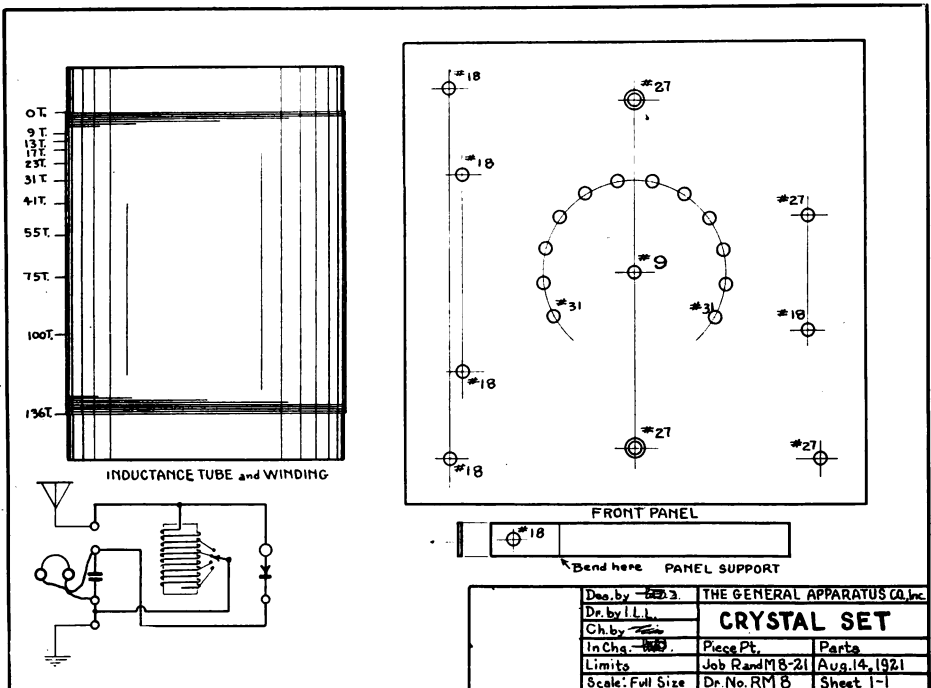

Fig. 2. Exactly one-half size. Showing the parts and the wiring of the completed outfit.
**Putting the Parts Together.** FIG. 2 shows the holes in the 5- by 5- by 3/16-in. L.P.F. panel. This material can be drilled readily with an ordinary hand drill after the holes have been located with a center punch. A drawing is also given for the panel support brackets, cut from 3/8- by 1/16-in. brass strip.
indicated in Fig. 2. At this point bend the wire toward the start of the coil and put one turn around the part already wound. Bring the end of this turn around to the place where it was started and wind on to the next tap. Secure the last turn with another pin. When the coil is finished, cut those extra turns, twist them together where they started, and bring them out for taps to the switch.
Connections are given in Fig. 2. Made with square tinned copper wire, they can be easily fitted and soldered. That is the